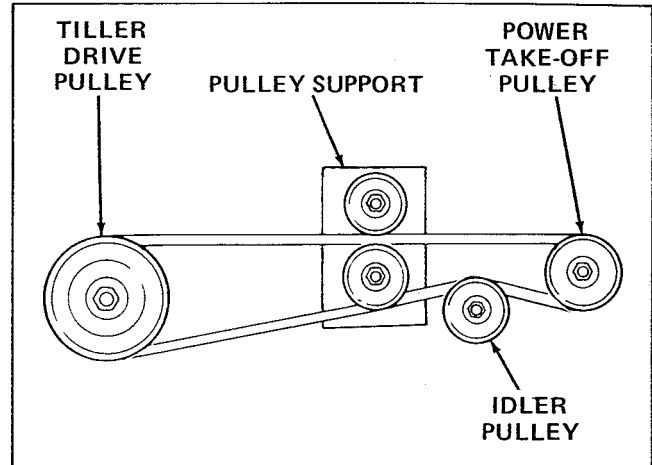

Figure 5. Belt Threading Diagram
11. Pull rotary tiller drive belt forward and over the tractor power take-off pulley. Be sure belt is not twisted and that it is positioned on pulleys as shown in figure 5.